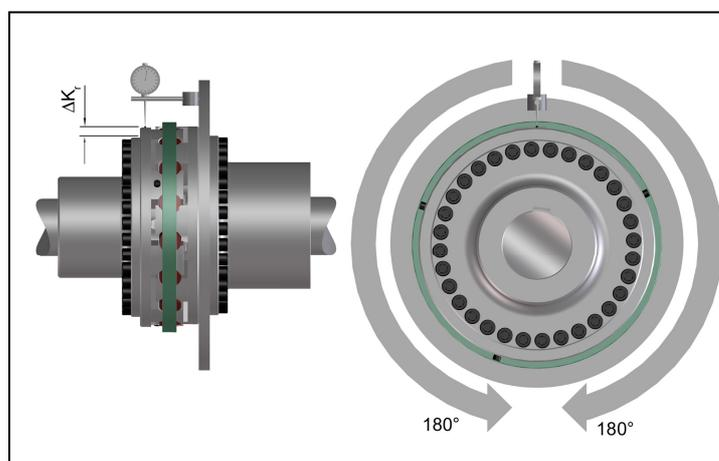

Fig. 7
- Measure one complete revolution (360°). Determine the largest deviation K_{r1} and the smallest deviation K_{r2} (Fig 7).